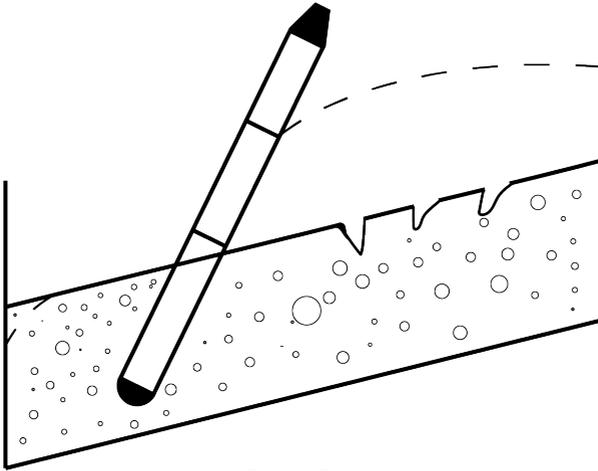

Figure 7
- Vibration of embankments causes segregation and cracks. (Fig. 7)